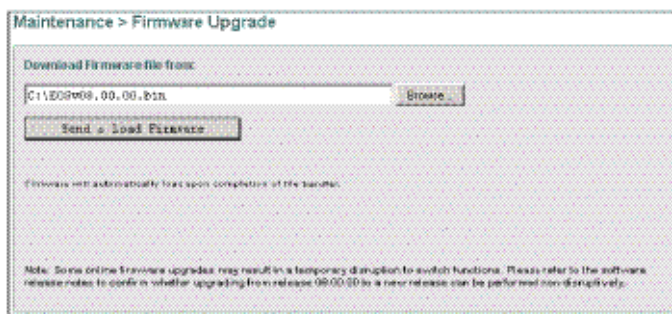

Figure 4-8 Firmware Upgrade View
1. Select *Firmware Upgrade* from the *Maintenance* menu(*Maintenance>Firmware Upgrade*). The *Firmware Upgrade View* appears (Figure 4-8).